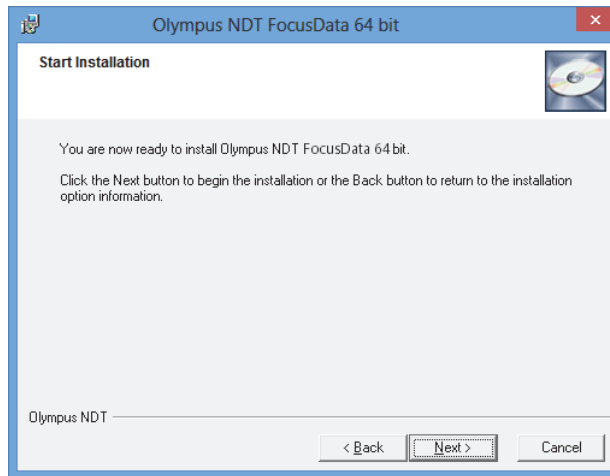

Figure 1-7 The Start Installation page
6. On the **Start Installation** page, click **Next** (see Figure 1-7 on page 17).